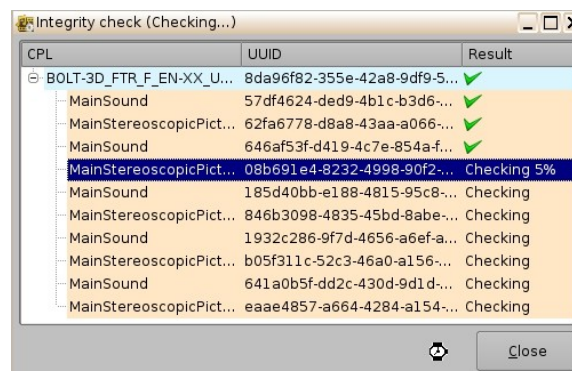

Figure 59: Integrity Check Window
- The following window will appear, which will run a test on each file of the CPL (Figure 59).